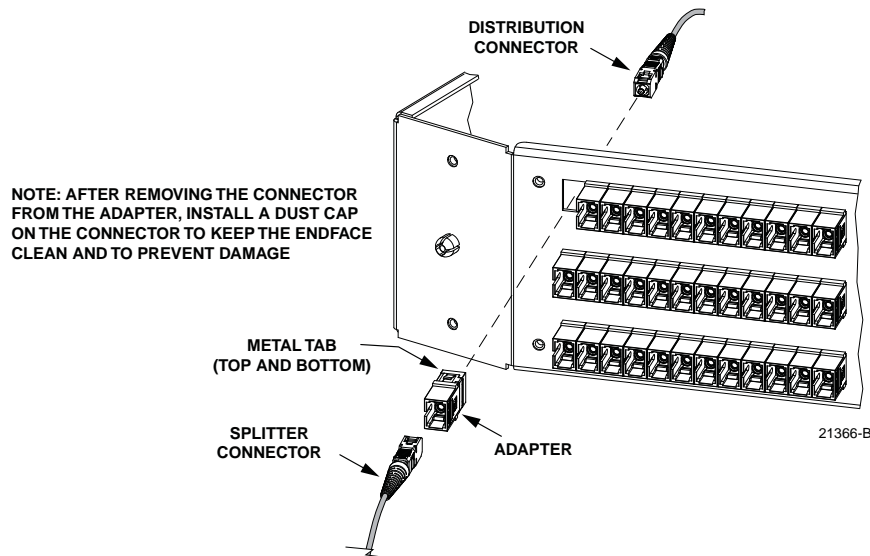

Figure 35. Adapter Removal and Replacement
1. Disconnect the splitter connector from the front side of the broken adapter as shown in Figure 35 and install a dust cap on the connector.